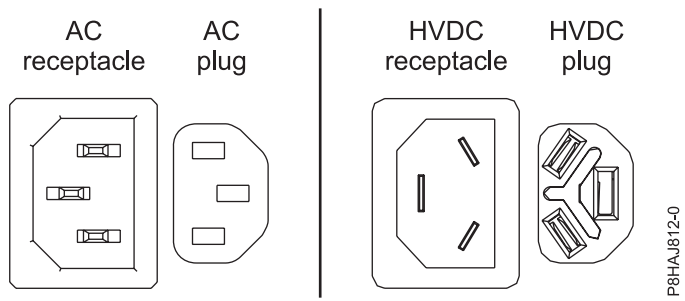
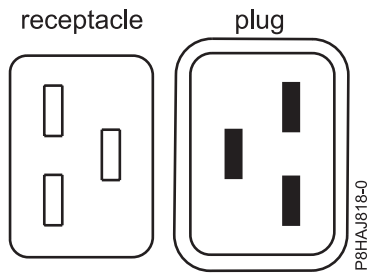
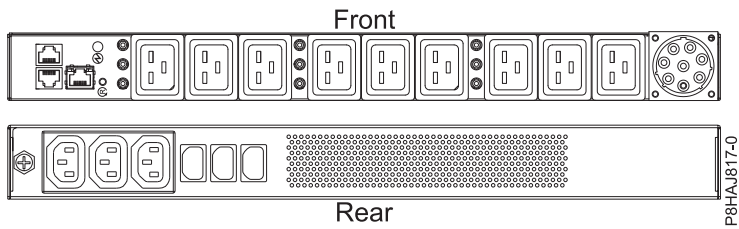

Figure 15. AC and HVDC connectors
Figure 16. Connectors for the 8408-44E system
Figure 17. PDU for the 8408-44E system
Figure 15 on page 37 shows the supported alternate current (AC) and high voltage direct current (HVDC) connectors. Figure 16 on page 37 and Figure 17 on page 37 show the supported connectors and power distribution unit (PDU) for 8408-44E.